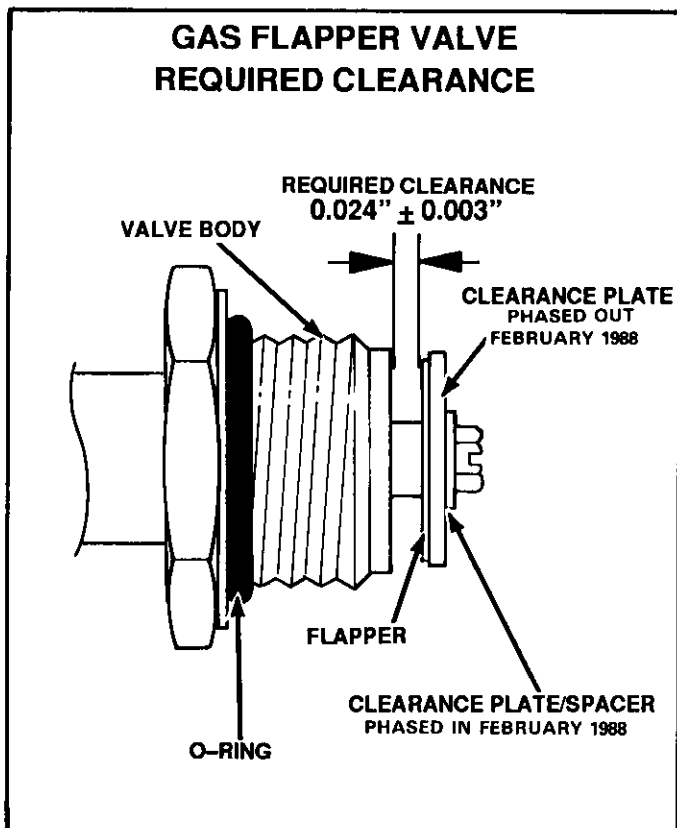

FIGURE 36
- Check for the required clearance between flapper and valve body. Refer to Figure 36. Use a feeler gauge, starting small and working up to the clearance dimensions until the gauge is just about snug. **BE VERY CAREFUL NOT TO DAMAGE THE FLAPPER MATERIAL BY FORCING THE GAUGE.** The clearance dimension given in Figure 36 at any point around the valve, it must be replaced.